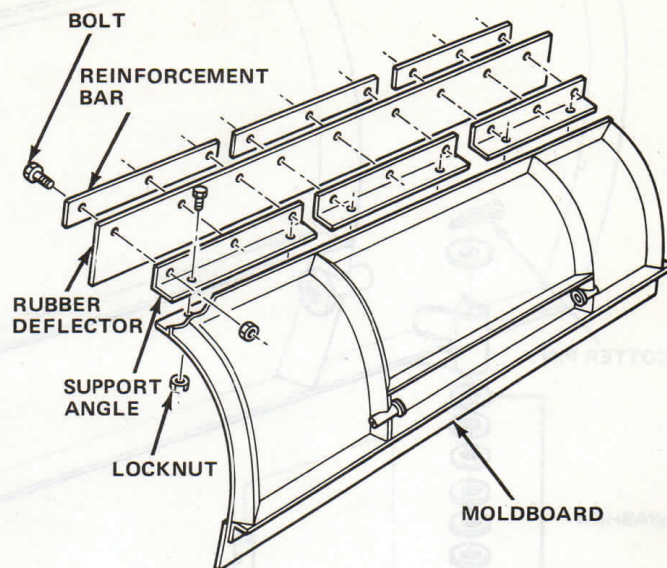

Fig. 1-9 Snow Deflector Installation 90377
(1) Lay out rubber deflector on a flat surface and cut to moldboard length.
(2) Fit support angles as shown in figure 1-9. Using support angle as a template, drill locating holes through moldboard.